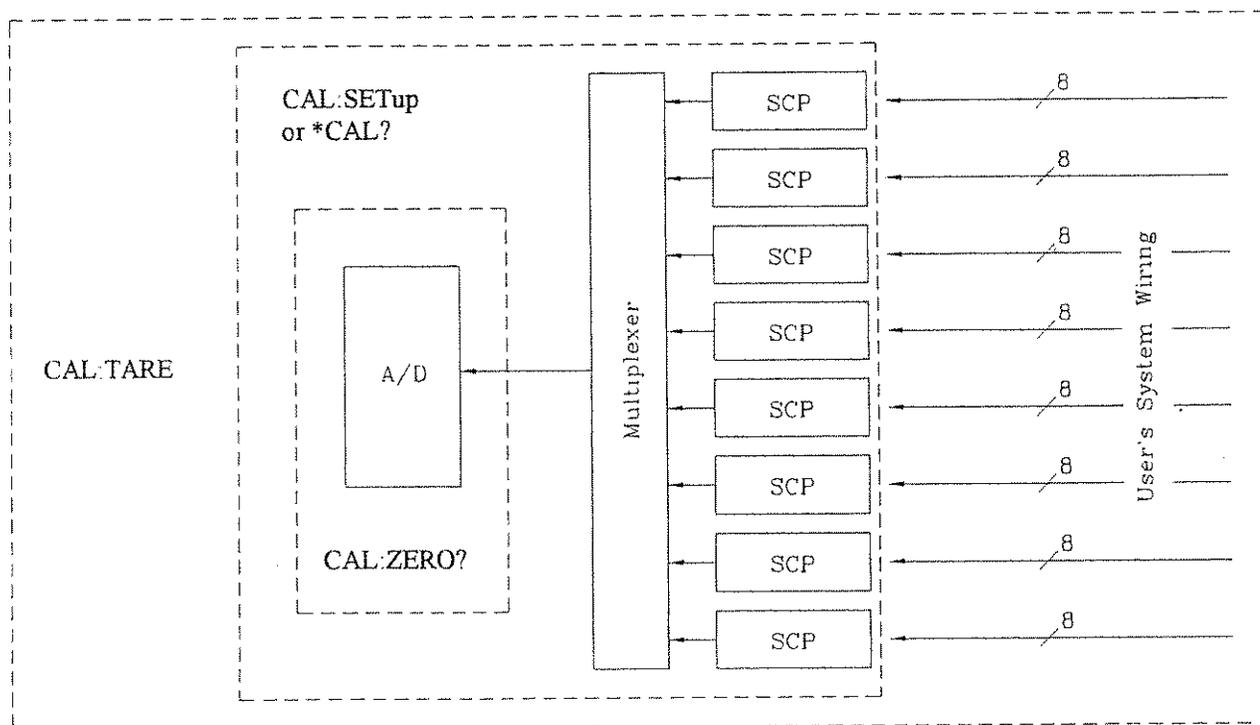

Figure 5-2 Levels of Working Calibration
2. "Working calibration", of which there are three levels (see Figure 5-2):